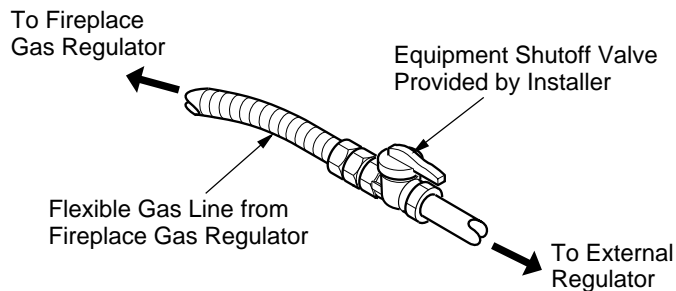

Figure 25 - Attaching Flexible Gas Line to Equipment Shutoff Valve
NOTICE: Most building codes do not permit concealed gas connections. A flexible gas line is provided to allow accessibility from the fireplace (see Figure 25). The flexible gas supply line connection to the equipment shutoff valve should be accessible.
4. Apply pipe joint sealant lightly to male threads of gas connector attached to flexible gas line/equipment shutoff valve (see Figure 25).